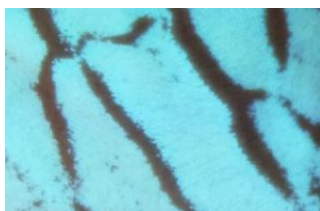

Figure 4.3 Blue mode
- ✧ By default, the instrument enters into the blue mode, as shown in Figure 4.3. The “Color” key can be used to select the projection color, as shown in Figure 4.4, Figure 4.5 and Figure 4.6 below. The optional colors are pink, white, and reverse color.